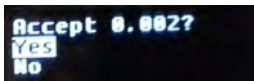

Figure 2.8-7. Drop Scale Factor True Screen (Save Prompt)
- Step 2.)** Once the DSF is set to the desired Range and Drop values, press the Left Button to exit the screen. A prompt asks you if you would like to accept the new DSF value (see Figure 2.8-7). Use the Fire/Up and Adjust/Down Buttons to highlight the desired response and press the Enter Button to accept.